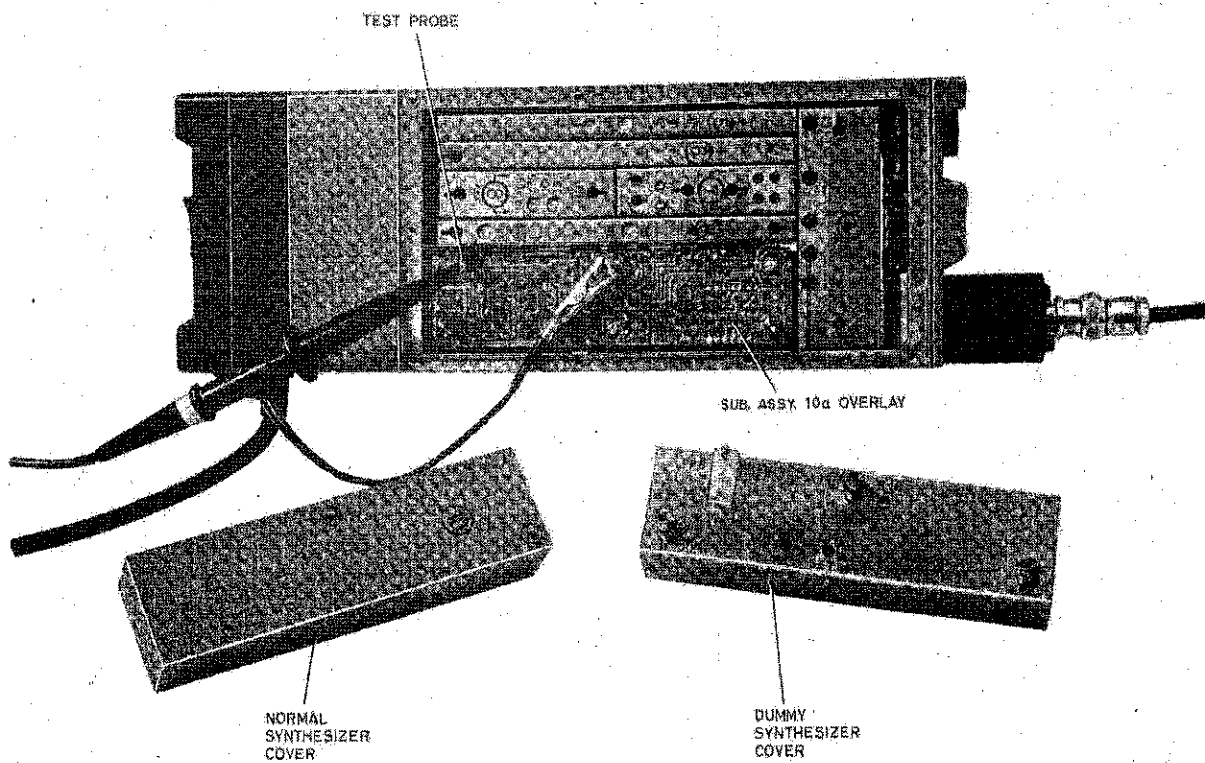

Fig 6 - Fault location : synthesizer (assembly 10)
● FAULT FINDING WITHIN ASSEMBLY 10 (SYNTHESIZER) (Fig 6, 2003 and 2005)
111. Fault finding is carried out with the motherboard, with all assemblies, fitted into the motherboard test jig (item 1, Table 2); refer to para 33 and Fig 6.